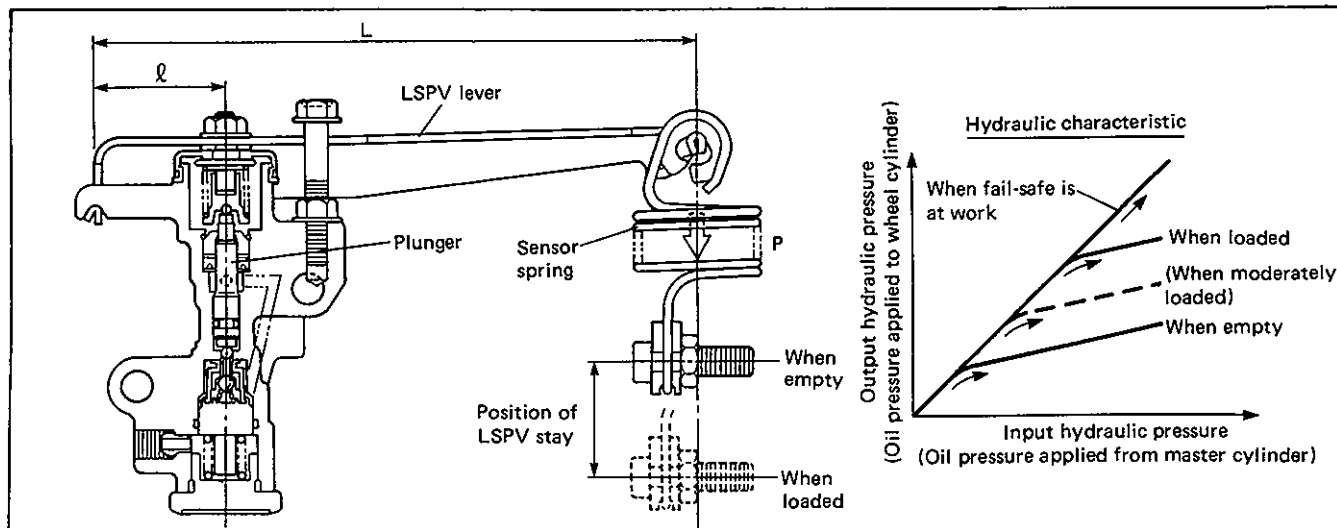

Fig. 5-20-2
1. Operation of sensor section (Refer to Fig. 5-20-2.)